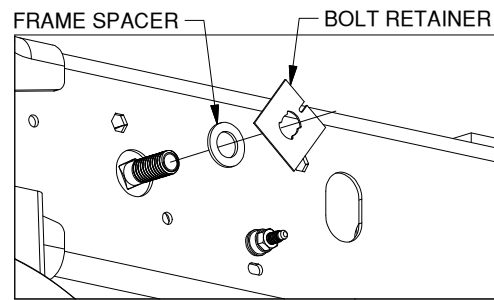

Figure B3: View looking at driver side frame.
- 3. Pull fish wire through frame.** With the fish wire through the locking strap, push the locking strap completely into the frame. Next, pull the carriage bolt into the frame. Continue pulling on the fish wire until the threaded portion of the bolt is sticking out of the frame. Push the circle frame spacer over the carriage bolt and into the hole in the frame. The spacer will locate the bolt within the center of the hole. While keeping the bolt from falling into the frame, remove the fish wire from the end of the bolt. Thread the bolt retainer onto the bolt and tighten until it is flush with the outside of the frame. The spacer must be inside the frame hole and not stick past the face of the frame, see Figure B3.